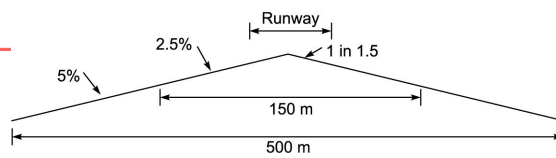

Fig. 19.1 Cross section of runway
3. Shoulders of runway should be at least 75 m on either side from centre of runway. Its transverse gradient should not exceed 2.5%. Transverse gradient of remaining portion should not exceed 5%. These requirements are shown in Fig. 19.1.